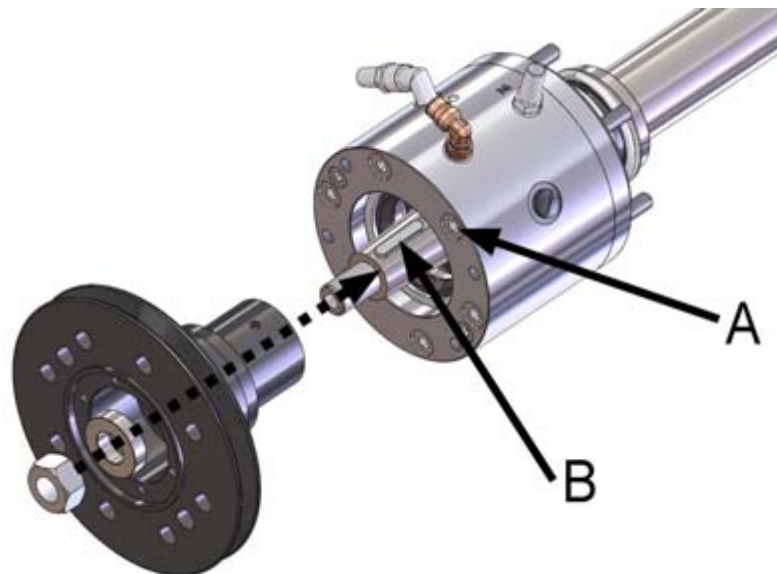

Figure 22. Installing the coupling flange
8. Open the bearing housing's fastening screws (six in total, figure 22, point A) in the holes and install the coupling flange.
- 8.1. Place the wedge in the wedge groove (figure 22, point B).